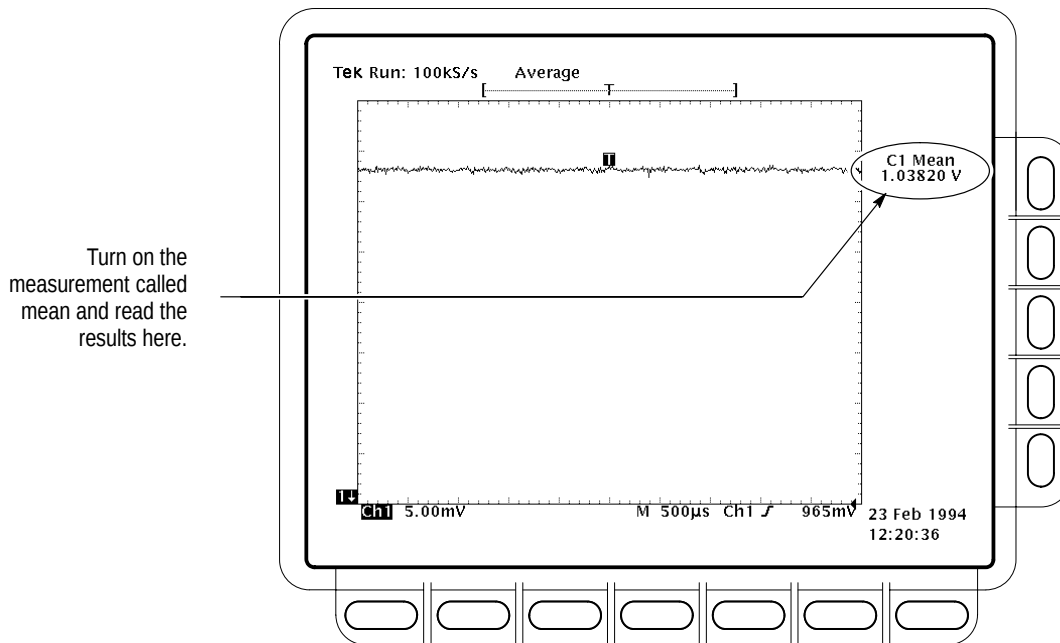

Figure 4–6: Measurement of DC accuracy at maximum offset and position
- e. *Measure the test signal:* Press **CLEAR MENU**. Read the measurement results at the **Mean** measurement readout. See Figure 4–6.